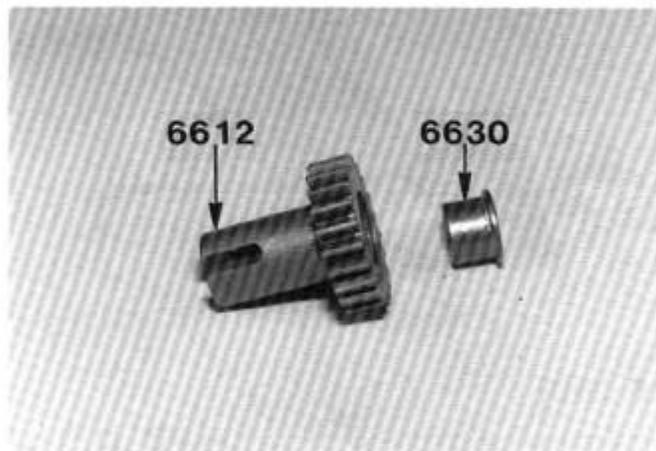

FIG. 39
□ **FIG. 39**—Associated makes a complete ball bearing package for the RC10 Graphite: #6900. We'll show you how to install the bushings, which come with the kit, and the ball bearings. They're both installed in almost the same